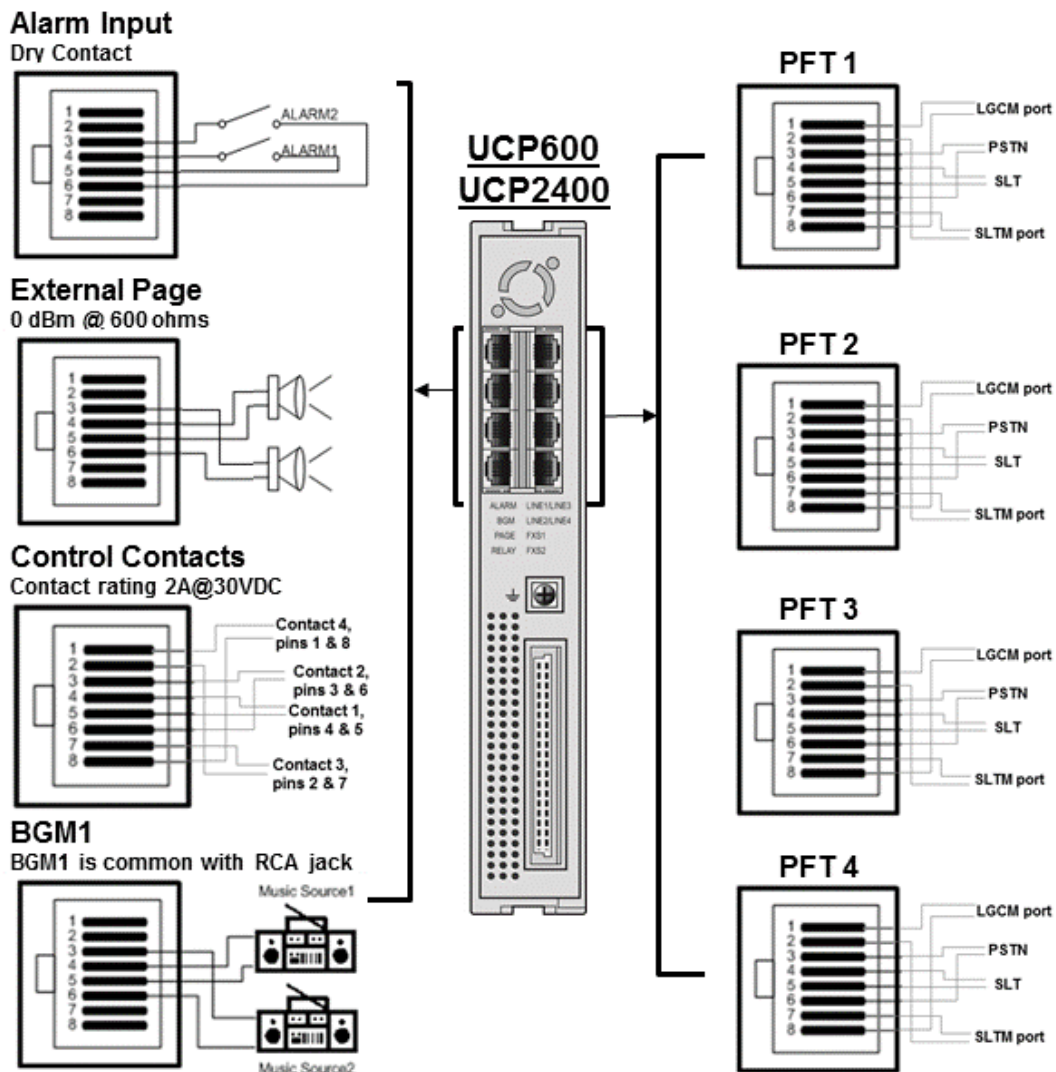

Figure 6.2-2 UCP600/2400 Miscellaneous & Power Fail Transfer Connections
For the iPECS UCP600 and UCP2400 modules, the eight (8) RJ-45 connectors on the rear panel are terminated for miscellaneous functions and Power Fail functions. Wire these connectors as depicted in the sketch of Figure 6.2-2.